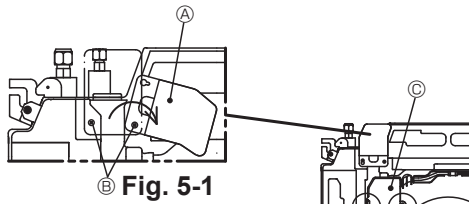

Fig. 5-1
1. Loosen the two screws securing the electrical wiring service panel at the cable entry (power cable), and then turn the service panel to the position shown in the diagram. (Fig. 5-1)